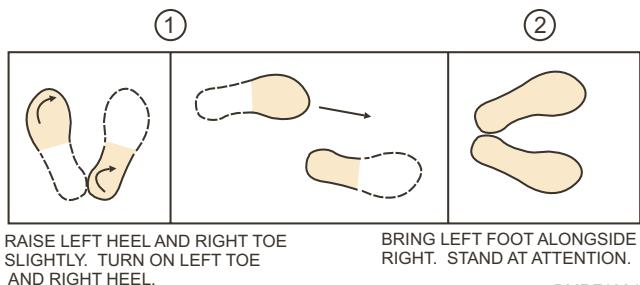

Figure 10-24.—Right Face.
RIGHT FACE. Right face (fig. 10-24) is a two-count movement started on the commands **Right FACE**. On the command **FACE**, (1) raise your left heel and right toe slightly and turn 90° to the right. Keep your left leg straight but not stiff; (2) bring your left heel smartly alongside the right heel and stand at attention.